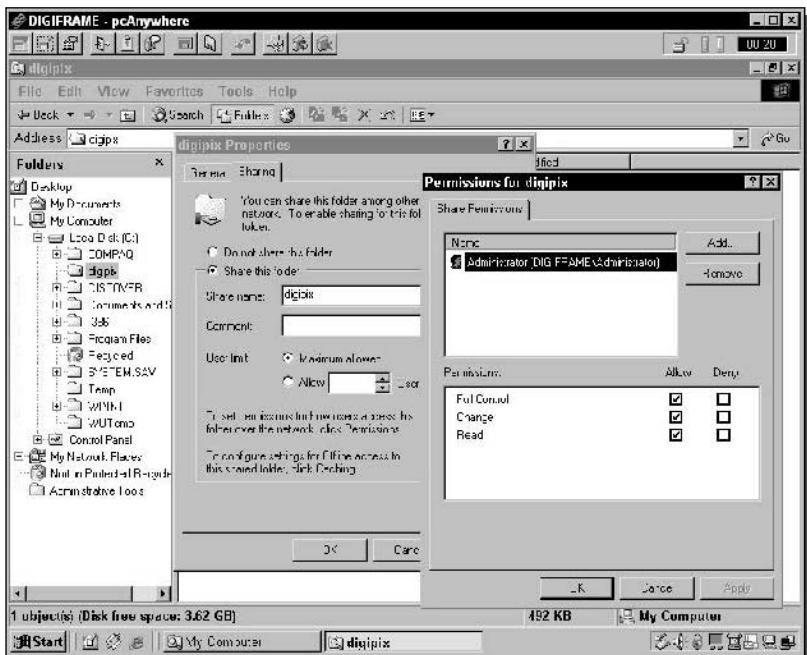

FIGURE 15-6: Sharing the digipix folder to the administrator account.
3. Enable sharing and give proper permissions for the users that will connect. In this case, only the Administrator account is configured for access to the folder (see Figure 15-6).